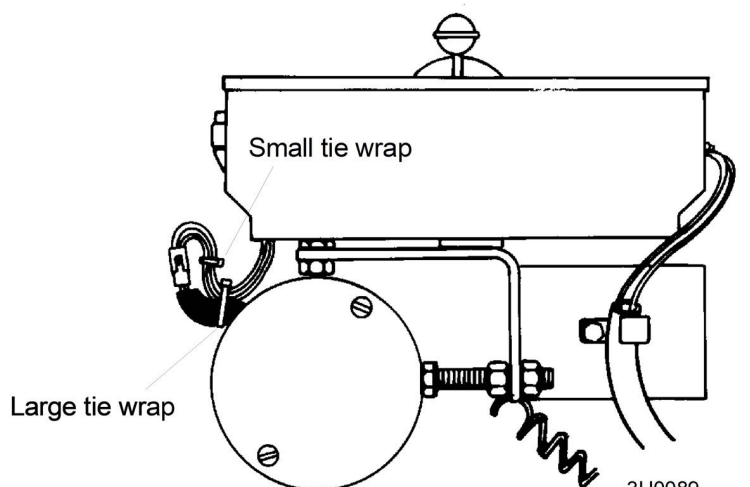

FIG. 1-5
13. Use the small tie wrap to bundle the two harness wires together. **See Fig. 1-5.**